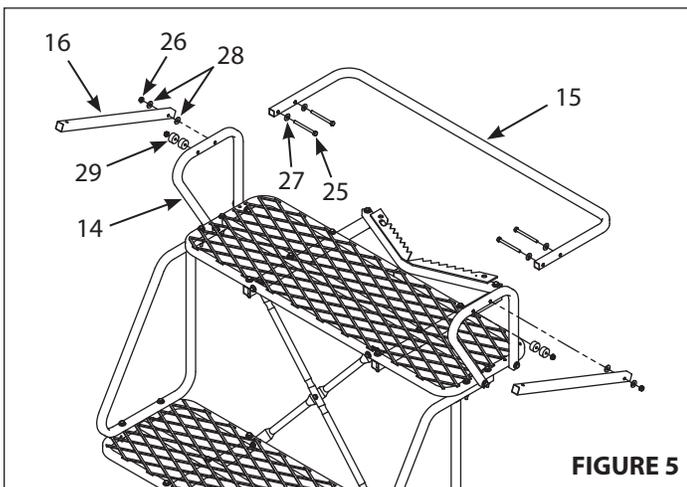

FIGURE 5
8. Attach the backrest rail (15) and both shooting rail extensions (16) to the armrests (14) using four 1/4-20 x 3" bolts (25), four locknuts (26), four steel washers (27), four plastic spacers (29) and four plastic washers (28). Shooting rail extensions should rest on top of the plastic spacers to act as the shooting rail rest. **SEE FIGURE 5.**
NOTE: Backrest rail (15) should go to the inside of armrests (14) and shooting rail extensions (16) should go to the outside. SEE FIGURE 5.